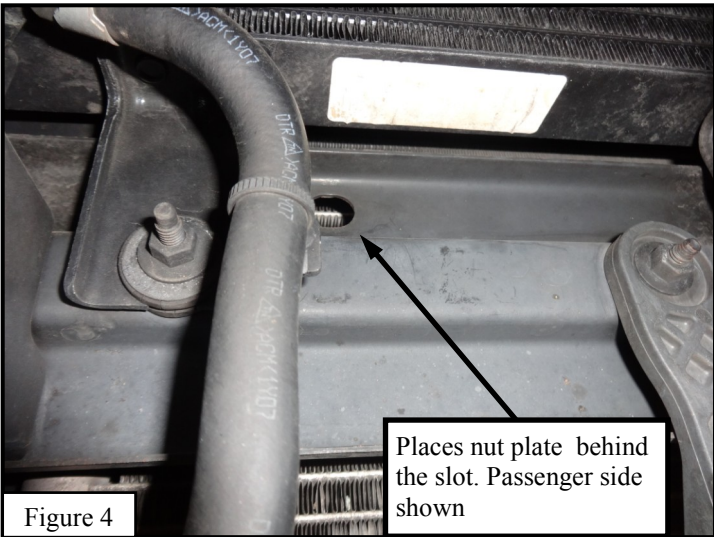

Figure 4
5. Through the back side of the holes attach loosely the M10 nut plates (item 6) then proceed to install per side, (1) short spacer (item 7), (1) M10 flat washer (item 9), (1) M10 lock washer (item 10), and (1) M10 hex head cap screw (item 8). (Figures 4 & 5)